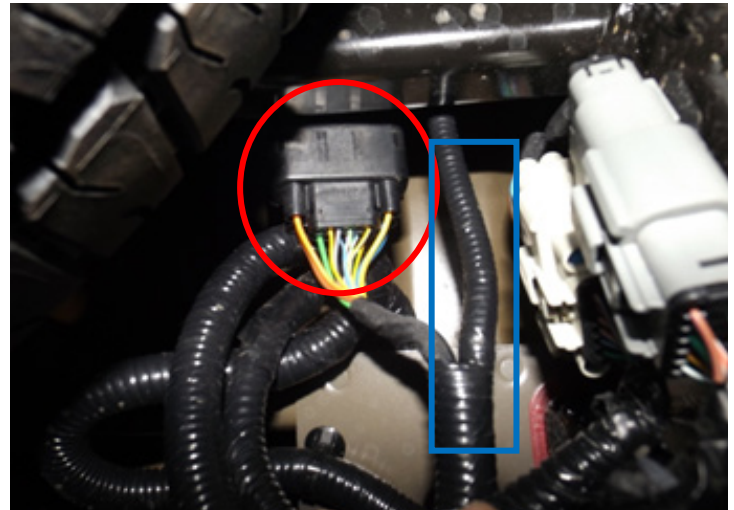
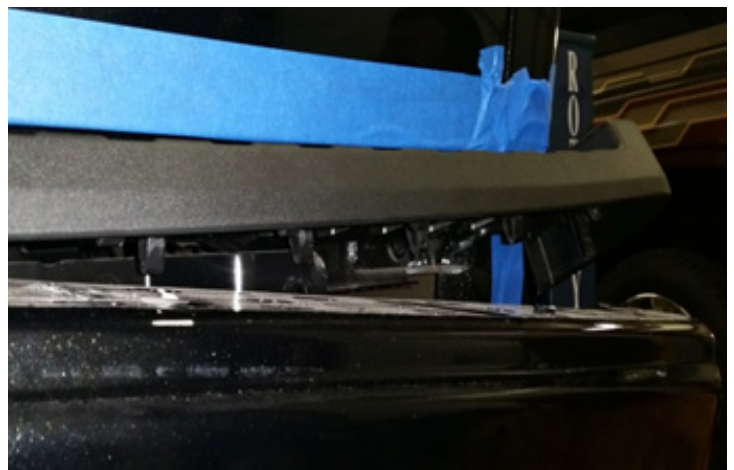

Figure 2a
Figure 3
2. Disconnect the sensor harness plug, indicated by the red circle, and then trace the ground wire, indicated by the blue square, around the frame and using a 10mm wrench unscrew (ref. fig. 2a-b).
3. Remove one (1) Christmas tree plug and (1) clip connecting the harness to the frame.
5. The OE bumper will come off in 3 pieces. From the outside and starting from the passenger side edge peel away the plastic that is clipped into the top of the bumper (Figure 3). Flat head screwdriver is recommended for removal.